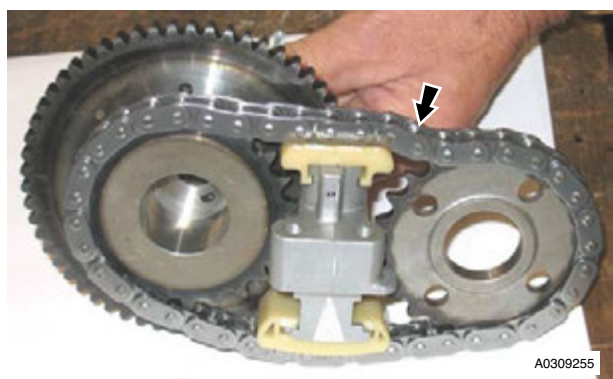

Figure 4
6. Remove the secondary timing chain and tensioner from the sprockets (refer to Figure 4).